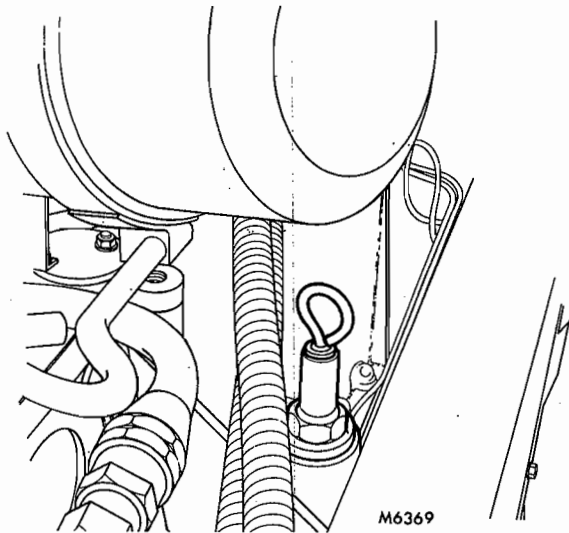

FIG. 5 GEARBOX FILLER AND DIPSTICK
3. With engine idling lift the engine cover to gain access to the filler plug Fig. 5. Clean the filler plug and surrounding area to prevent ingress of dirt, remove the plug and top up with oil of the correct specification to the relevant mark on the dipstick.